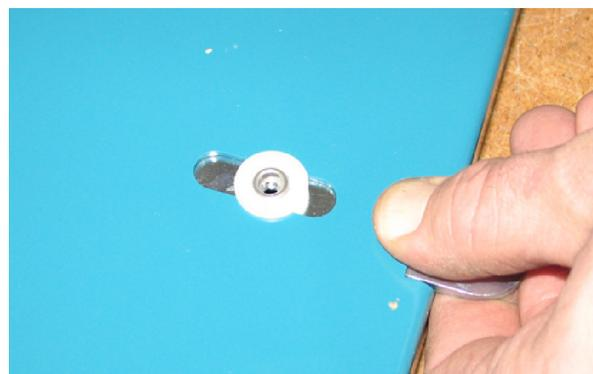
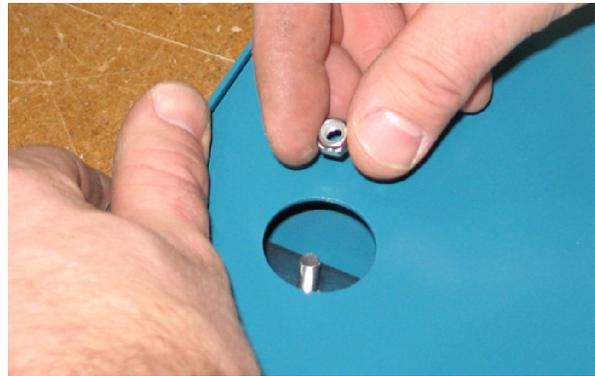
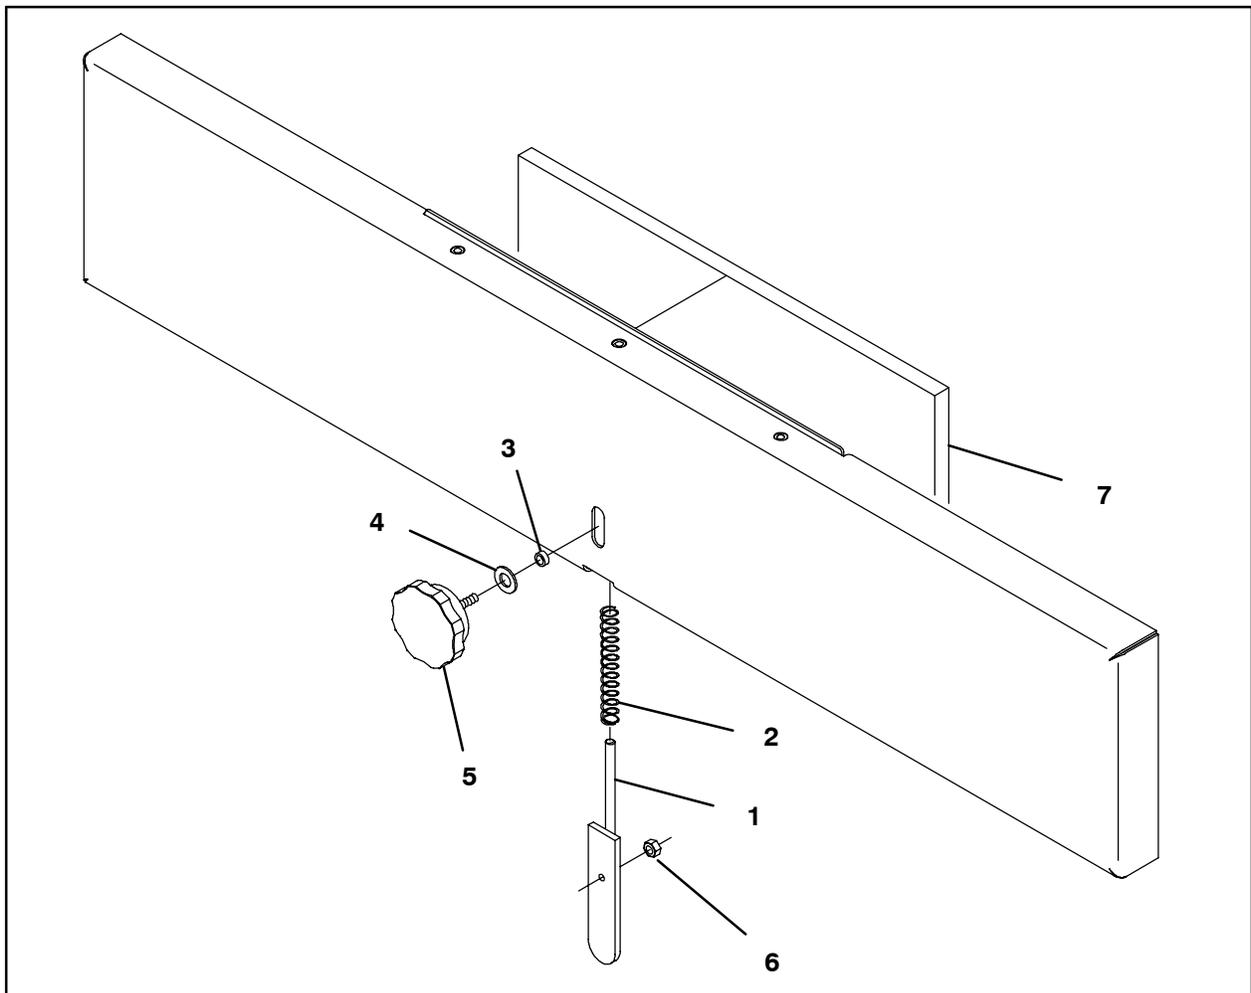

FIG. 2
FIG. 4
FIG. 5
6. Slide the spring (2) onto the latch (1) and slide the latch into the door. Refer to Fig. 1 and Fig. 5.
7. Align the hole in the latch (1) in the center of the notch and place a spacer (3) and washer (4) onto the door/latch. Refer to Fig. 2 and Fig. 5.
8. Thread the knob (5) into the latch. Refer to Fig. 3 and Fig. 5.
9. Install the hex nut (6) onto the knob (5). Refer to Fig. 4 and Fig. 5.
10. Install the foam seal (7) onto the back of the door. Refer to Fig. 5.